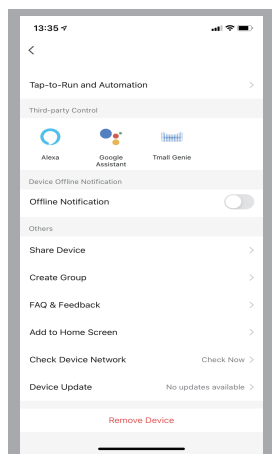

Fig. 21
**B).** Click “” on the main interface and enter into the interface Fig.21, users can get to know the guides of connecting EXVAC700 to the third-party, such as Alexa, Google home, etc, to create group, to check device network or update the firmware of the robot or remove the device.